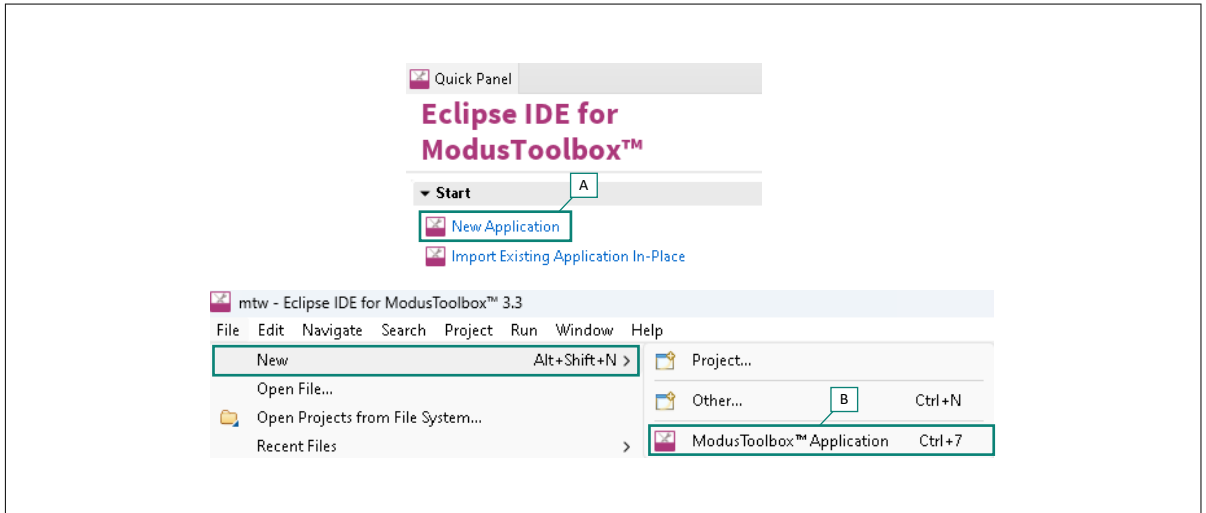

Figure 6 Create a New ModusToolbox™ Application
- Alternatively, you can choose **File > New > ModusToolbox™ Application**, as Figure 6 shows. Displays the Eclipse IDE for ModusToolbox™ Application window.